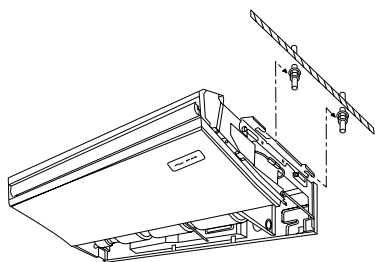

Fig. 3-7
1) Directly suspending the unit (Fig. 3-7)